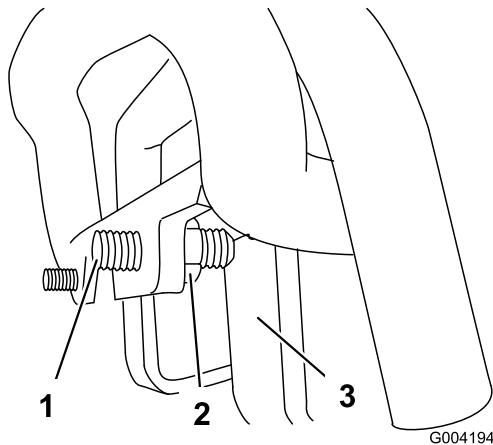

Figure 55
- 3. If the machine veers to the **left**, loosen the **right** jam nut and adjust the tracking set screw on the front of the traction control (Figure 55).
- 4. If the machine veers to the **right**, loosen the **left** jam nut and adjust the tracking set screw on the front of the traction control (Figure 55).